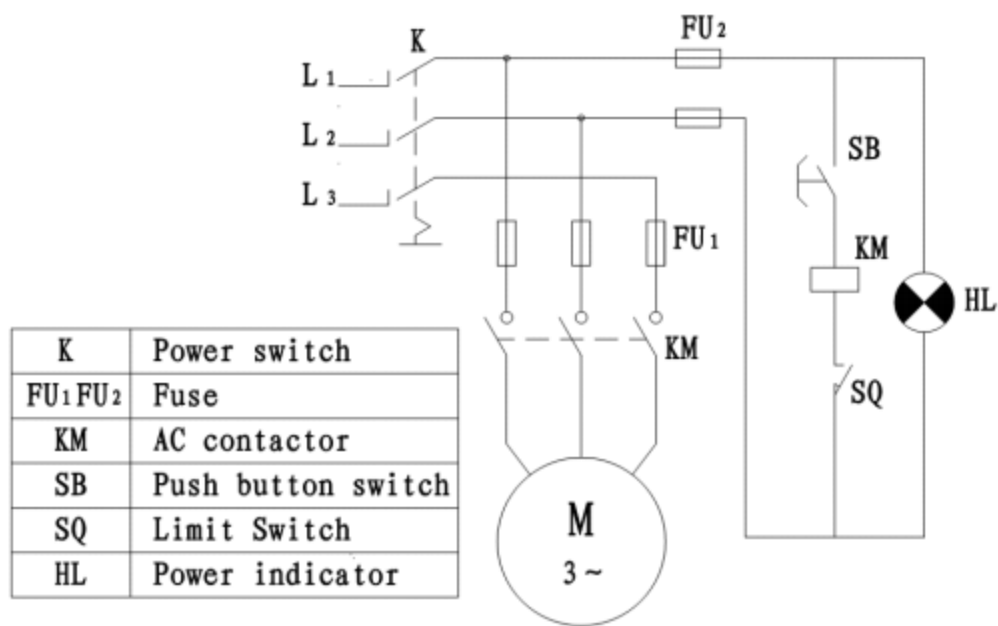

Figure 6 Schematic diagram of electrical system
6.9 .Connection circuit: connect the equipment circuit well according to figure 6 in the manual, connect the power cord well, and do the safe grounding to ensure the smooth, safe and reliable circuit.